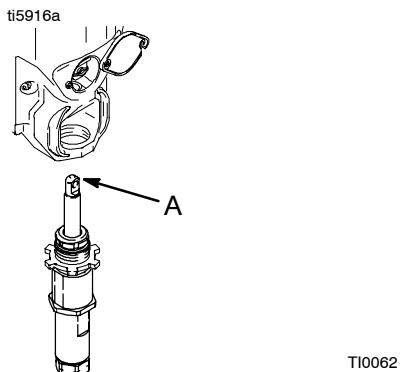

Fig. 20
1. Fig. 20. Extend pump piston rod fully. Apply grease to top of pump rod at (A) or inside connecting rod.